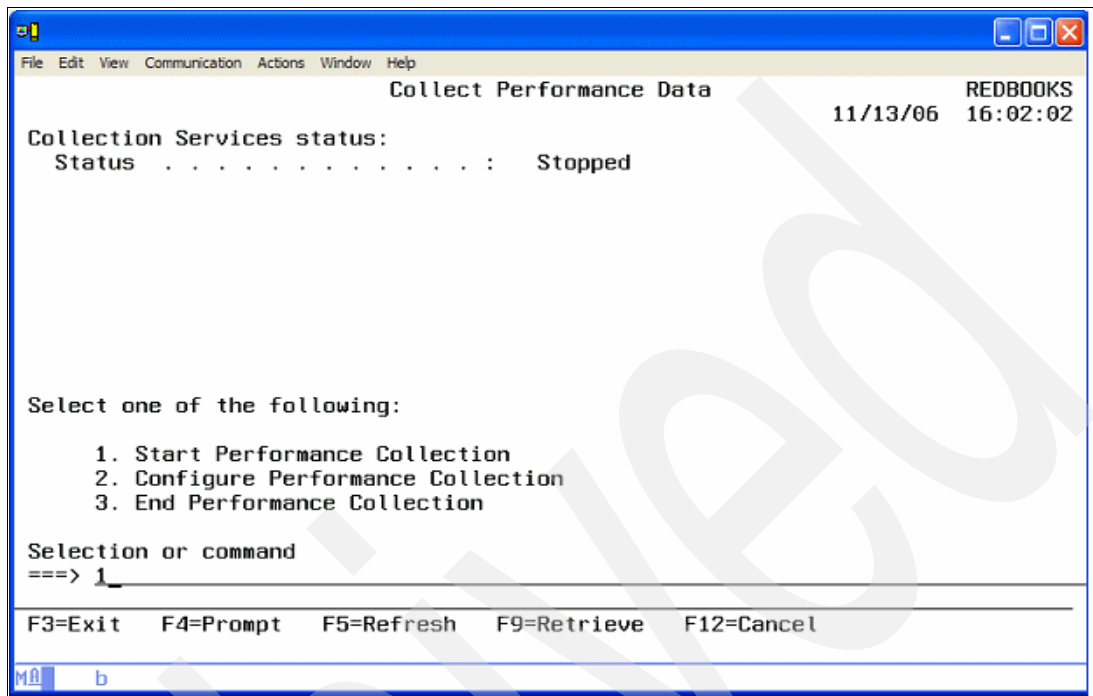

Figure A-5 Collect Performance Data panel
- To start or cycle Collection Services, on the Collect Performance Data panel (Figure A-5), select **1. Start Performance Collection**. If Collection Services is currently running, the Status is *Started* and any additional attribute values are indicated.